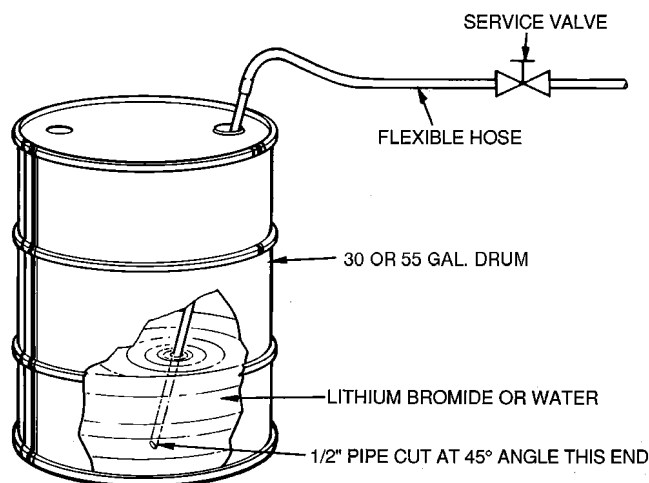

Fig. 29 — Charging Solution and Refrigerant
3. Insert the 1/2-in. pipe into the container (be sure it goes to the bottom) and connect the flexible hose to the drain valve (valve K), at the bottom of the high-temperature generator (Fig. 29).